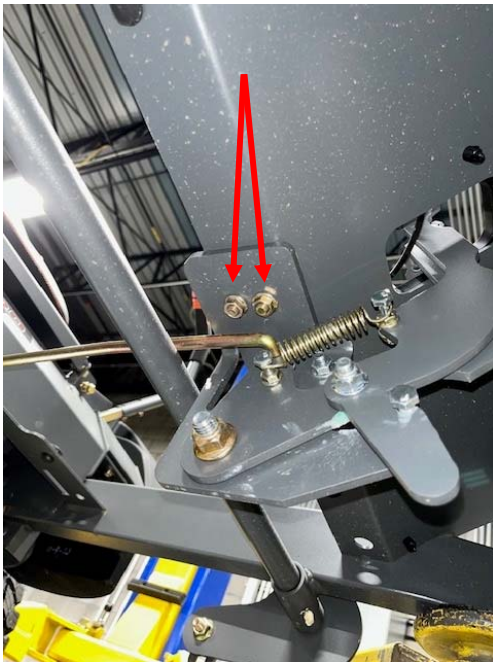

Figure 4
7. Remove and discard the two carriage bolts and nuts from the parking brake pedal. (Figure 4)